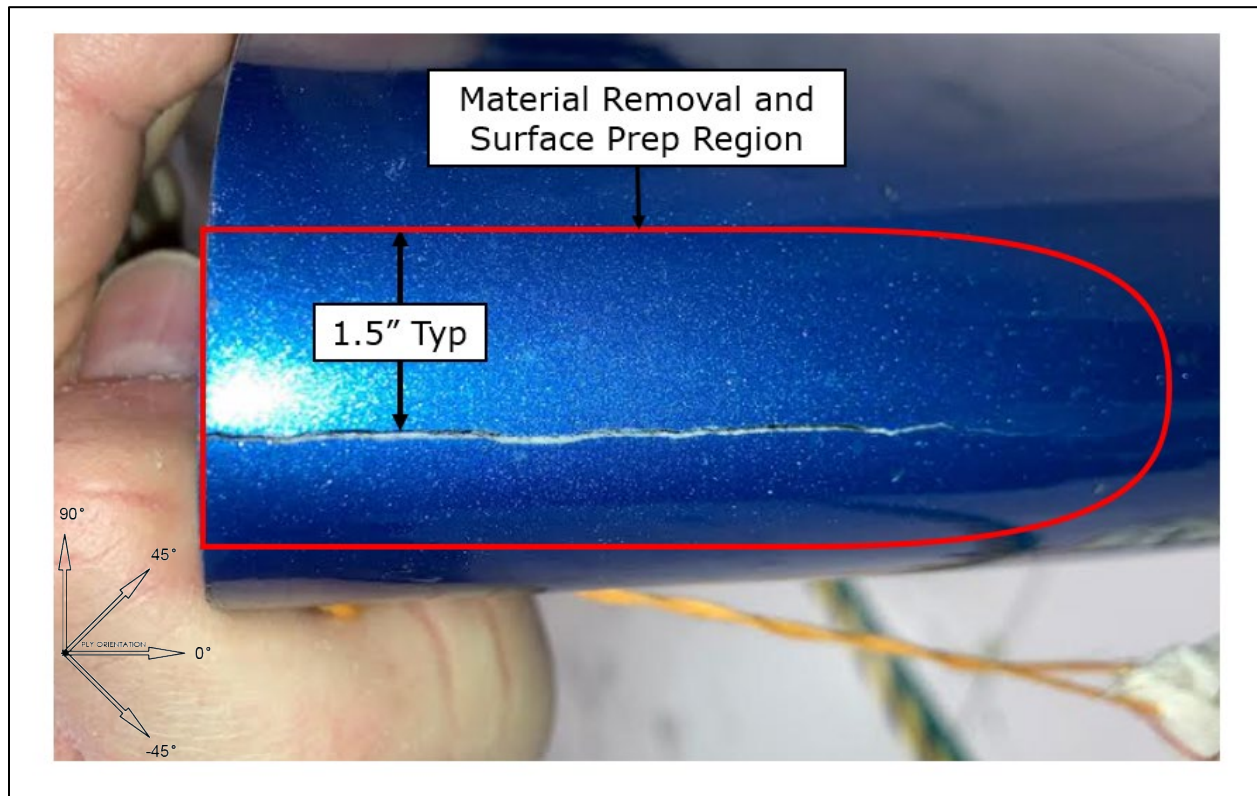

Figure 2: Material Removal and Surface Prep Detail
4. Sand to remove paint, body work, and LSP Protection for a minimum of 1.5" all around the cracked region. See Figure 2 for location. Take care not to damage underlying laminate during material removal.